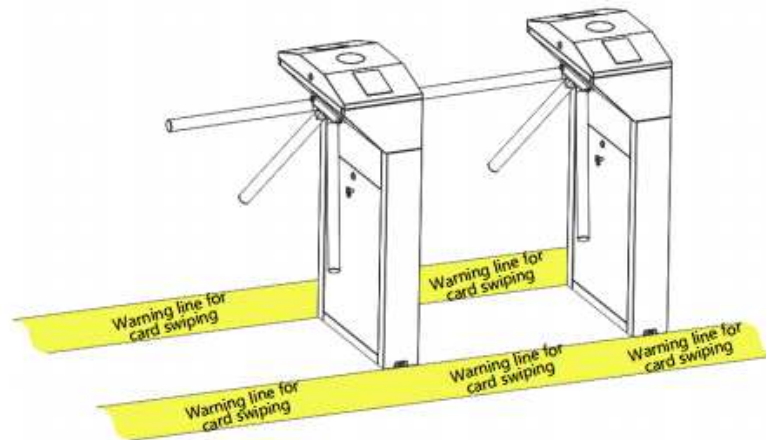

Figure 3-2
3. Setting a warning line for card swiping (see figure 3-2). A warning line is suggested to prompt users to swip cards in a distance, which would greatly reduce the probability of equipment failure caused by improper operations.